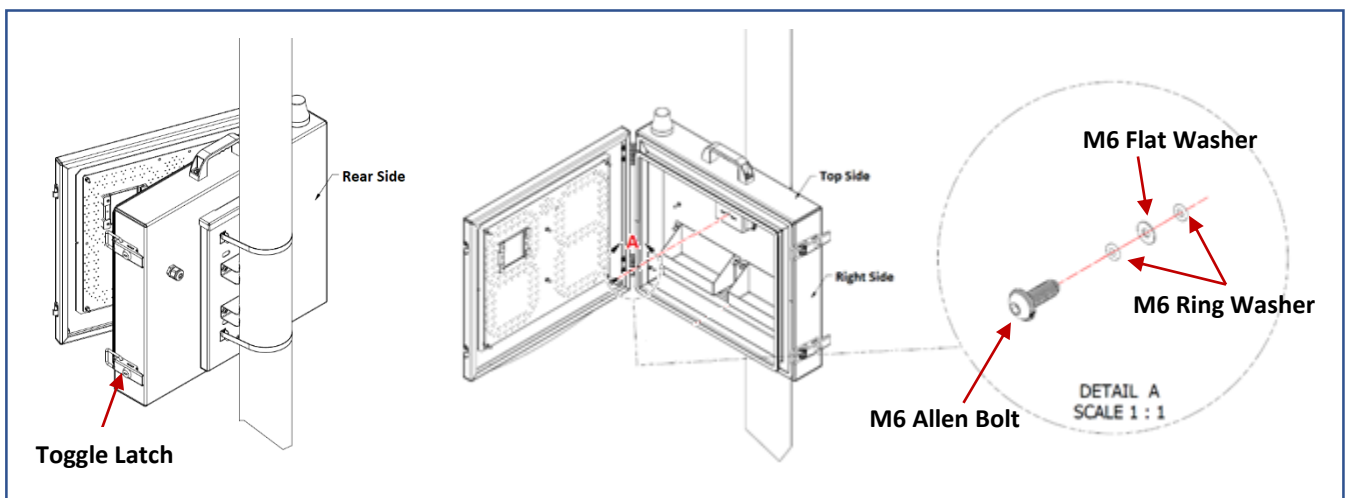

Fig.12
STEP 6: Open the **Radar Sign** by opening **two toggle latches**. Insert **M6 Ring** and **M6 flat washers** and **M6 Allen Bolt** at designated place just below the battery enclosures As the format shown in **Fig.12**.